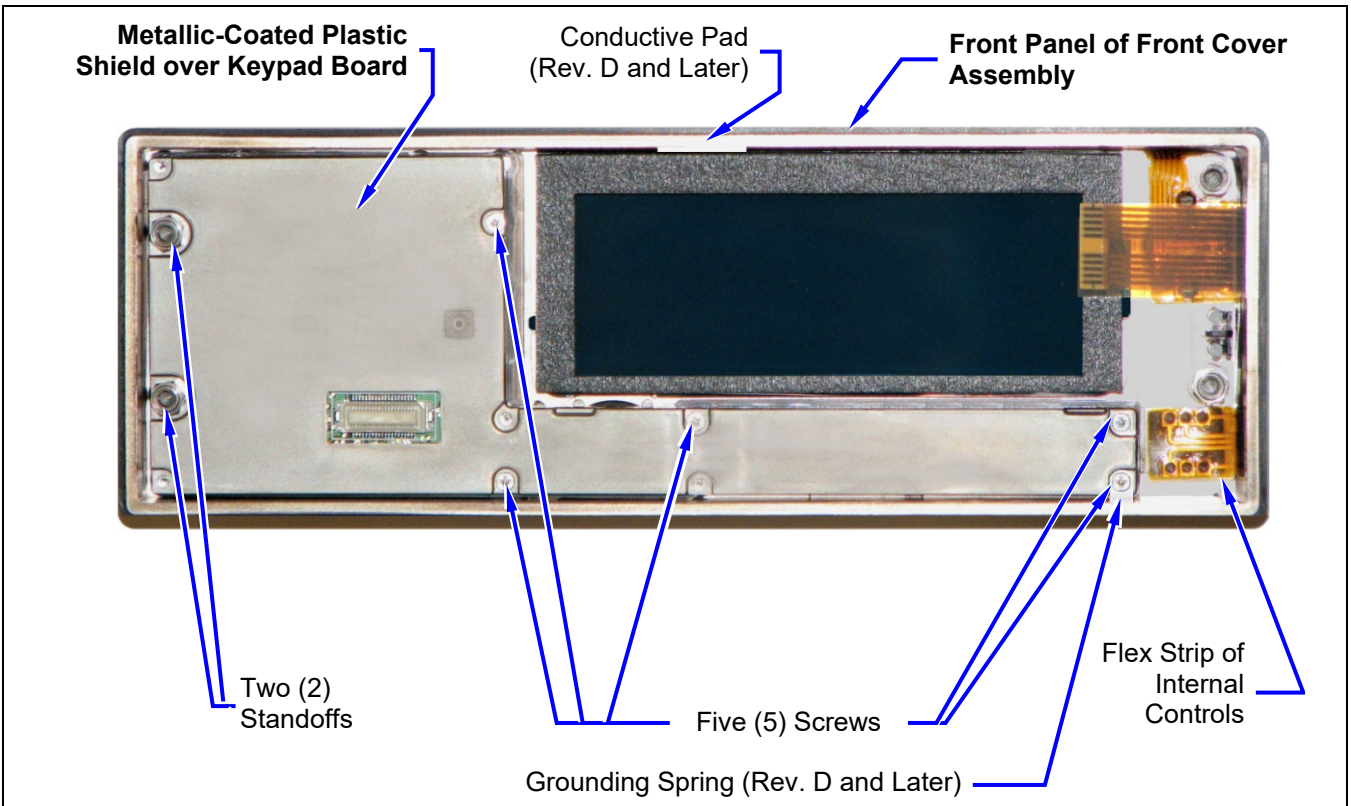

Figure 5-3: Keypad Board Shield and Related Hardware (Rear View of Front Panel)
3. Using a 5-millimeter nut driver, remove the two (2) standoffs on the side *opposite* of the internal controls and the respective flex strip. See Figure 5-3.
4. Remove the five (5) small Phillips-head screws securing the shield and board to the front panel. This shield covers the entire rear of the Keypad Board. On revision D (and later) control heads, as shown in Figure 5-3, one screw located near the system/group/channel selection control also secures a grounding spring.
Required screws are approximately ½-inch long (12 millimeters). As illustrated in Figure 5-3, two screws are required on each side of the mic connector, two are required next to the flex strip, and one is required just to the left of the display (as viewing from the rear of the front panel).
On revision D (and later) control heads, as shown in Figure 5-3, one screw located near the system/group/channel selection control also secures a grounding spring.